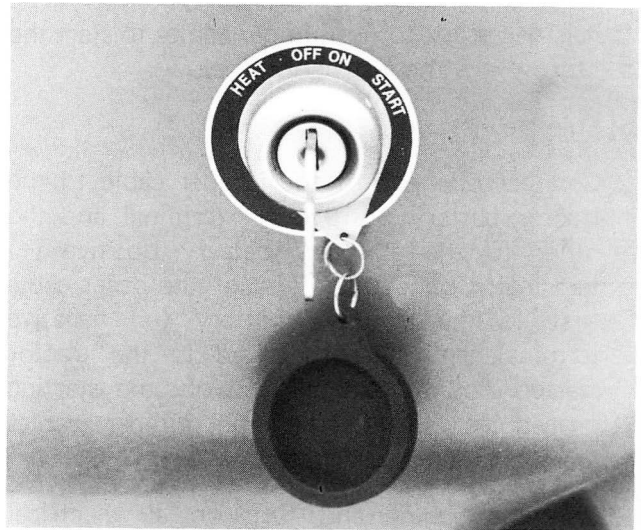

Figure 19 — Starter Switch
3. Turn the starter switch to the "start" position, Figure 19. When the engine starts, release the key. Check to be sure the warning lights go out. If the engine fails to start after cranking for approximately 10 seconds, refer to the following "COLD WEATHER STARTING" information.
Push the hand throttle fully forward past idle position to stop the engine, then turn the starter switch, Figure 19, to the "Off" position.